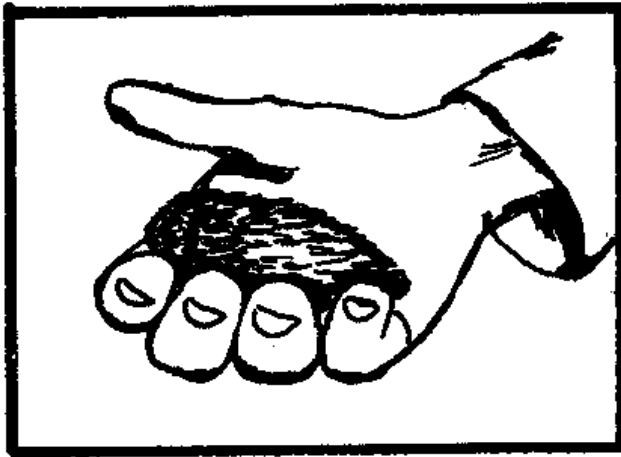

Fig. 7 - Determining the Dampness.
40. Testing for the Correct Amount of Moisture. The correct amount of moisture is quickly learned through experience. To test it, squeeze a handful of the mixture. (See Fig. 7.)